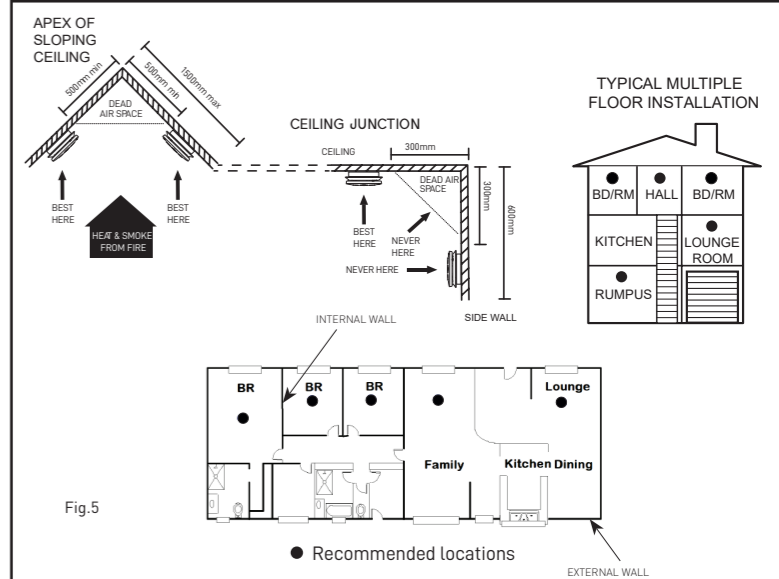

Fig.5
- Understand your requirements and decide how and where do you need the smoke alarm (See location section Fig. 5 for guidance)
- Mount base in the required position (See recommended location. Fig. 5).